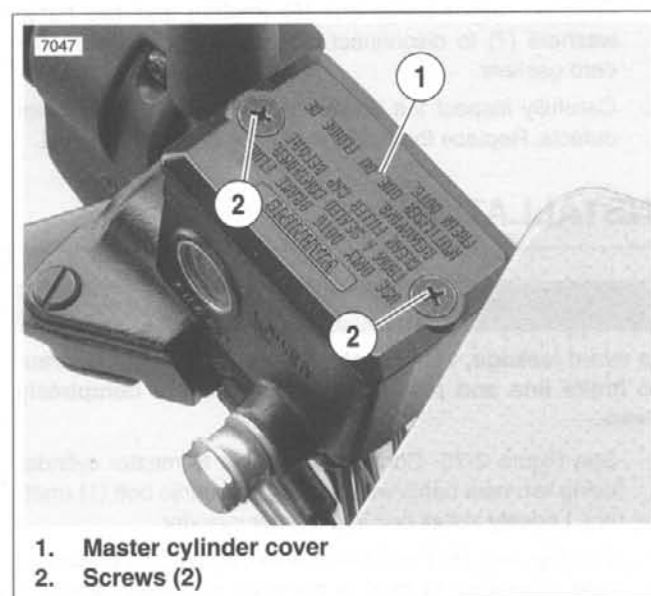

Figure 2-73. Master Cylinder Cover (Typical)
4. Connect brake line (1) to caliper using two **new** banjo washers (3) and banjo bolt (2) (metric). Tighten to 16-20 ft-lbs (21.7-27.1 Nm).
5. See Figure 2-73. Remove both master cylinder cover screws (2). Remove master cylinder cover (1) plastic insert and gasket.
8. See Figure 2-73. Install master cylinder cover, plastic insert and gasket with two screws. Tighten to 9-13 in-lbs (1.0-1.5 Nm).